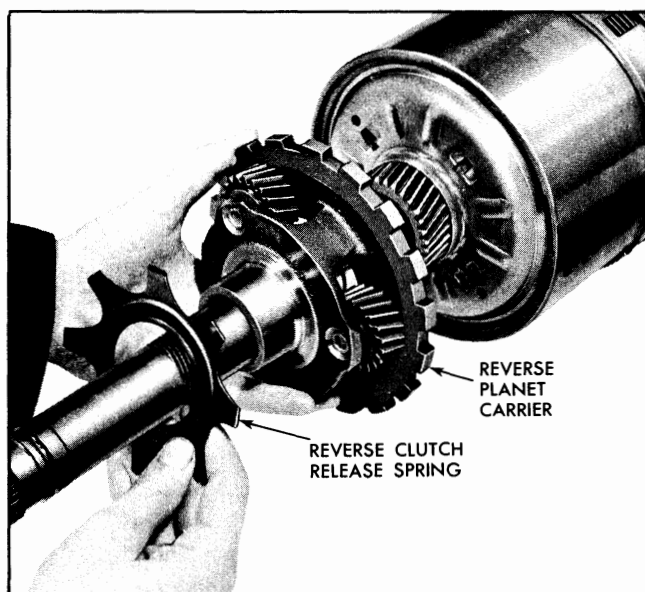

Fig. 7D-62 Removing Reverse Planet Carrier
14. Remove neutral clutch drum locating key from transmission case (Fig. 7D-66).